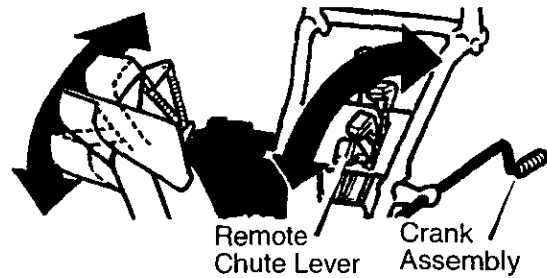

Figure 18
1. Turn the **crank assembly** to set the direction of the snow throwing. See Figure 18.